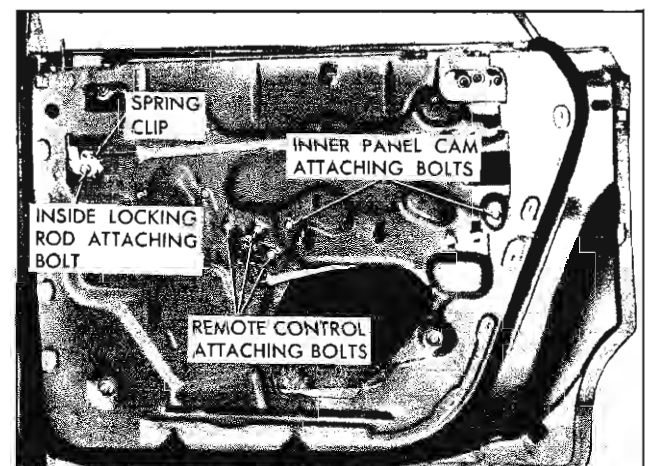

Fig. 50—Rear Door Hardware
1. Raise door window, remove door trim pad and detach inner panel water deflector sufficiently to expose inner panel cam attaching bolts (fig. 50).
- Disengage rod from spring clip on door inner panel. Remove inside locking rod attaching bolt and remove assembly from door (fig. 50).
- Remove remote control attaching bolts and remove control from connecting rod (fig. 50).